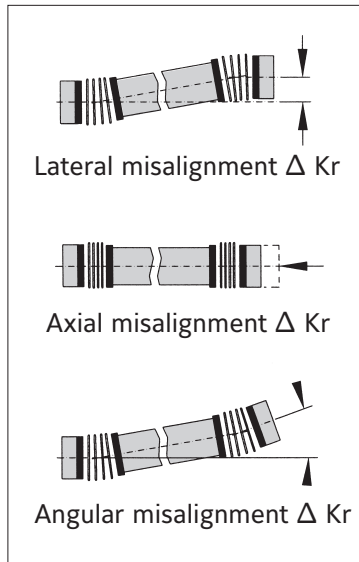

Figure 1
R+W line shafts are flexible shaft couplings for spanning longer shaft distances. They consist of two metal bellow coupling hubs (1) and one intermediate tube (2). The metal bellows are made of corrugated stainless steel and compensate for lateral, axial and angular shaft misalignment (Fig. 1). Torque transmission is backlash free and torsionally rigid (no wind-up). In horizontal applications the weight of the intermediate tube is supported by gim-
permissible misalignment values, tightening torques and important mounting dimensions. R+W line shafts compensates for lateral, axial, and angular shaft misalignment (Fig. 1). The lateral misalignment depends on the intermediate tube length. It can be calculated according to the formula in Figure 3.